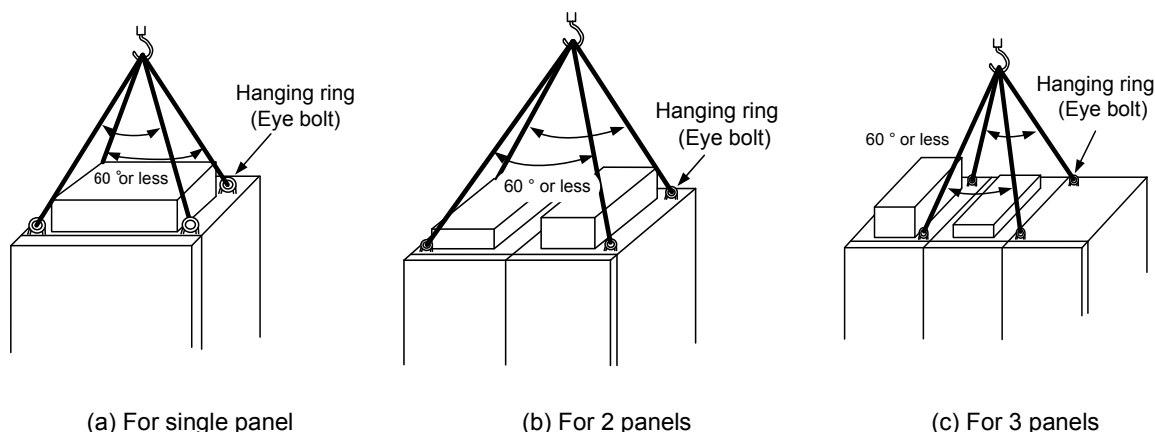

Figure 3.1-5: How to hook wires
- Figure 3.1-5 illustrates the methods of hooking wires. If there is only a single panel, use the method (a). Use the method (b) for 2 panels, and the method (c) for 3 panels.
- As shown in Figure 3.1-5, hook a wire to each hanging ring. Be sure not to hook a single wire as shown in Figure 3.1-6. The hanging angle must be 60° or less.